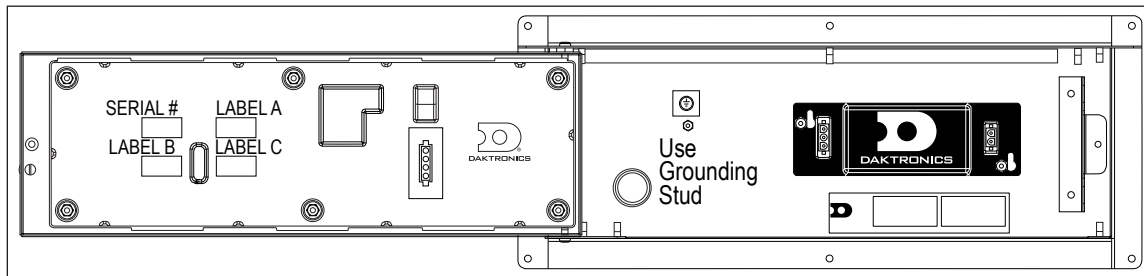

Figure 12: Internal Component Locations
3. The power supply is attached inside the cabinet to the display's backsheet, as shown in **Figure 12**, and its location varies between display sizes.